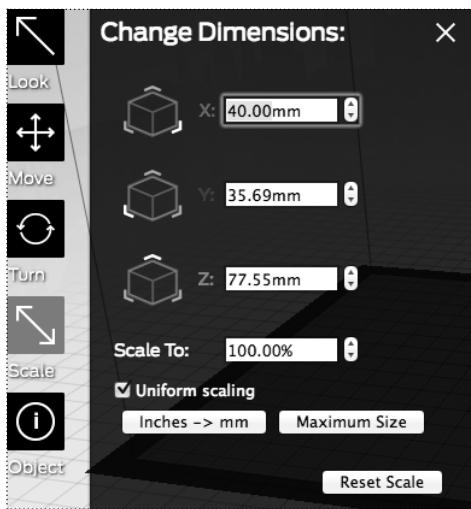

Fig. 9.2
**X:** Set this field to 40.00mm. [Fig. 9.2]